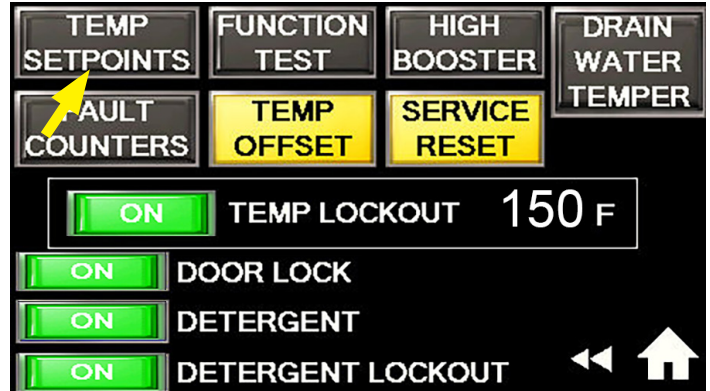

Fig. 67a- Maintenance menu
1. Press the Temp Setpoints button, (Fig. 67a).